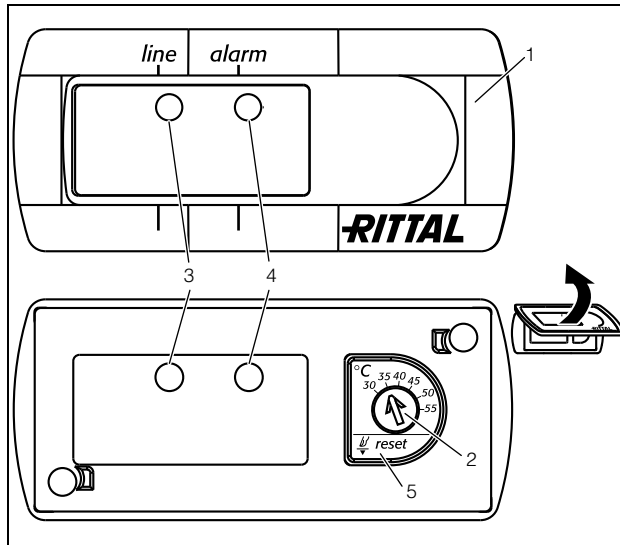

Fig. 32: Basic controller
- Set the required temperature on the temperature setting device (Fig. 32, page 21).
- Press the reset button (Fig. 32, no. 5) for at least 3 sec.